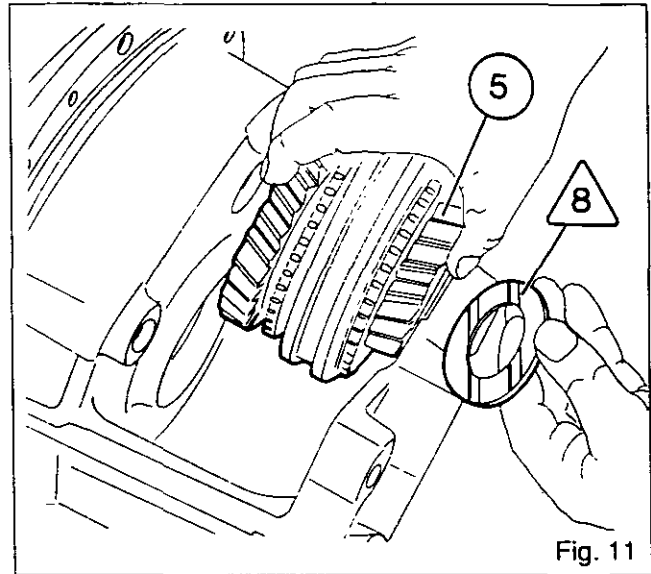

Fig. 11
38. Fit and centralise washer /8\ with its lubrication grooves facing towards gear (5) (Fig.11).
39. Insert secondary shaft (19) into the gear and synchronism assembly (18).
40. Check that the splines on shaft (19) are engaged in the splines in the synchroniser body (2). Press the shaft in until it is fully home against the inner races of bearings (24) or /44\, and (9) with a press and a suitable press tool.